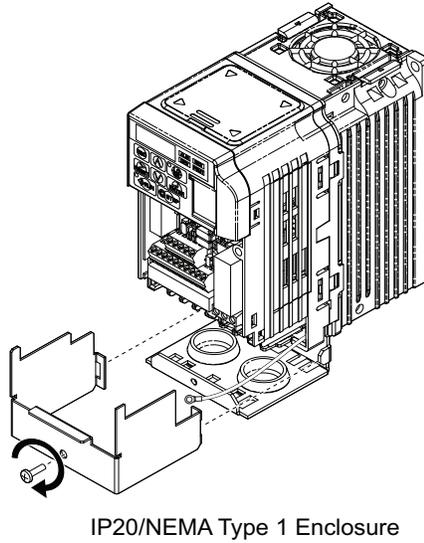

Figure 17 Reattach the Bottom Cover IP20/NEMA Type 1
11. Reattach the IP20/NEMA Type 1 bottom terminal cover according to Figure 17. Proceed to STEP 13.